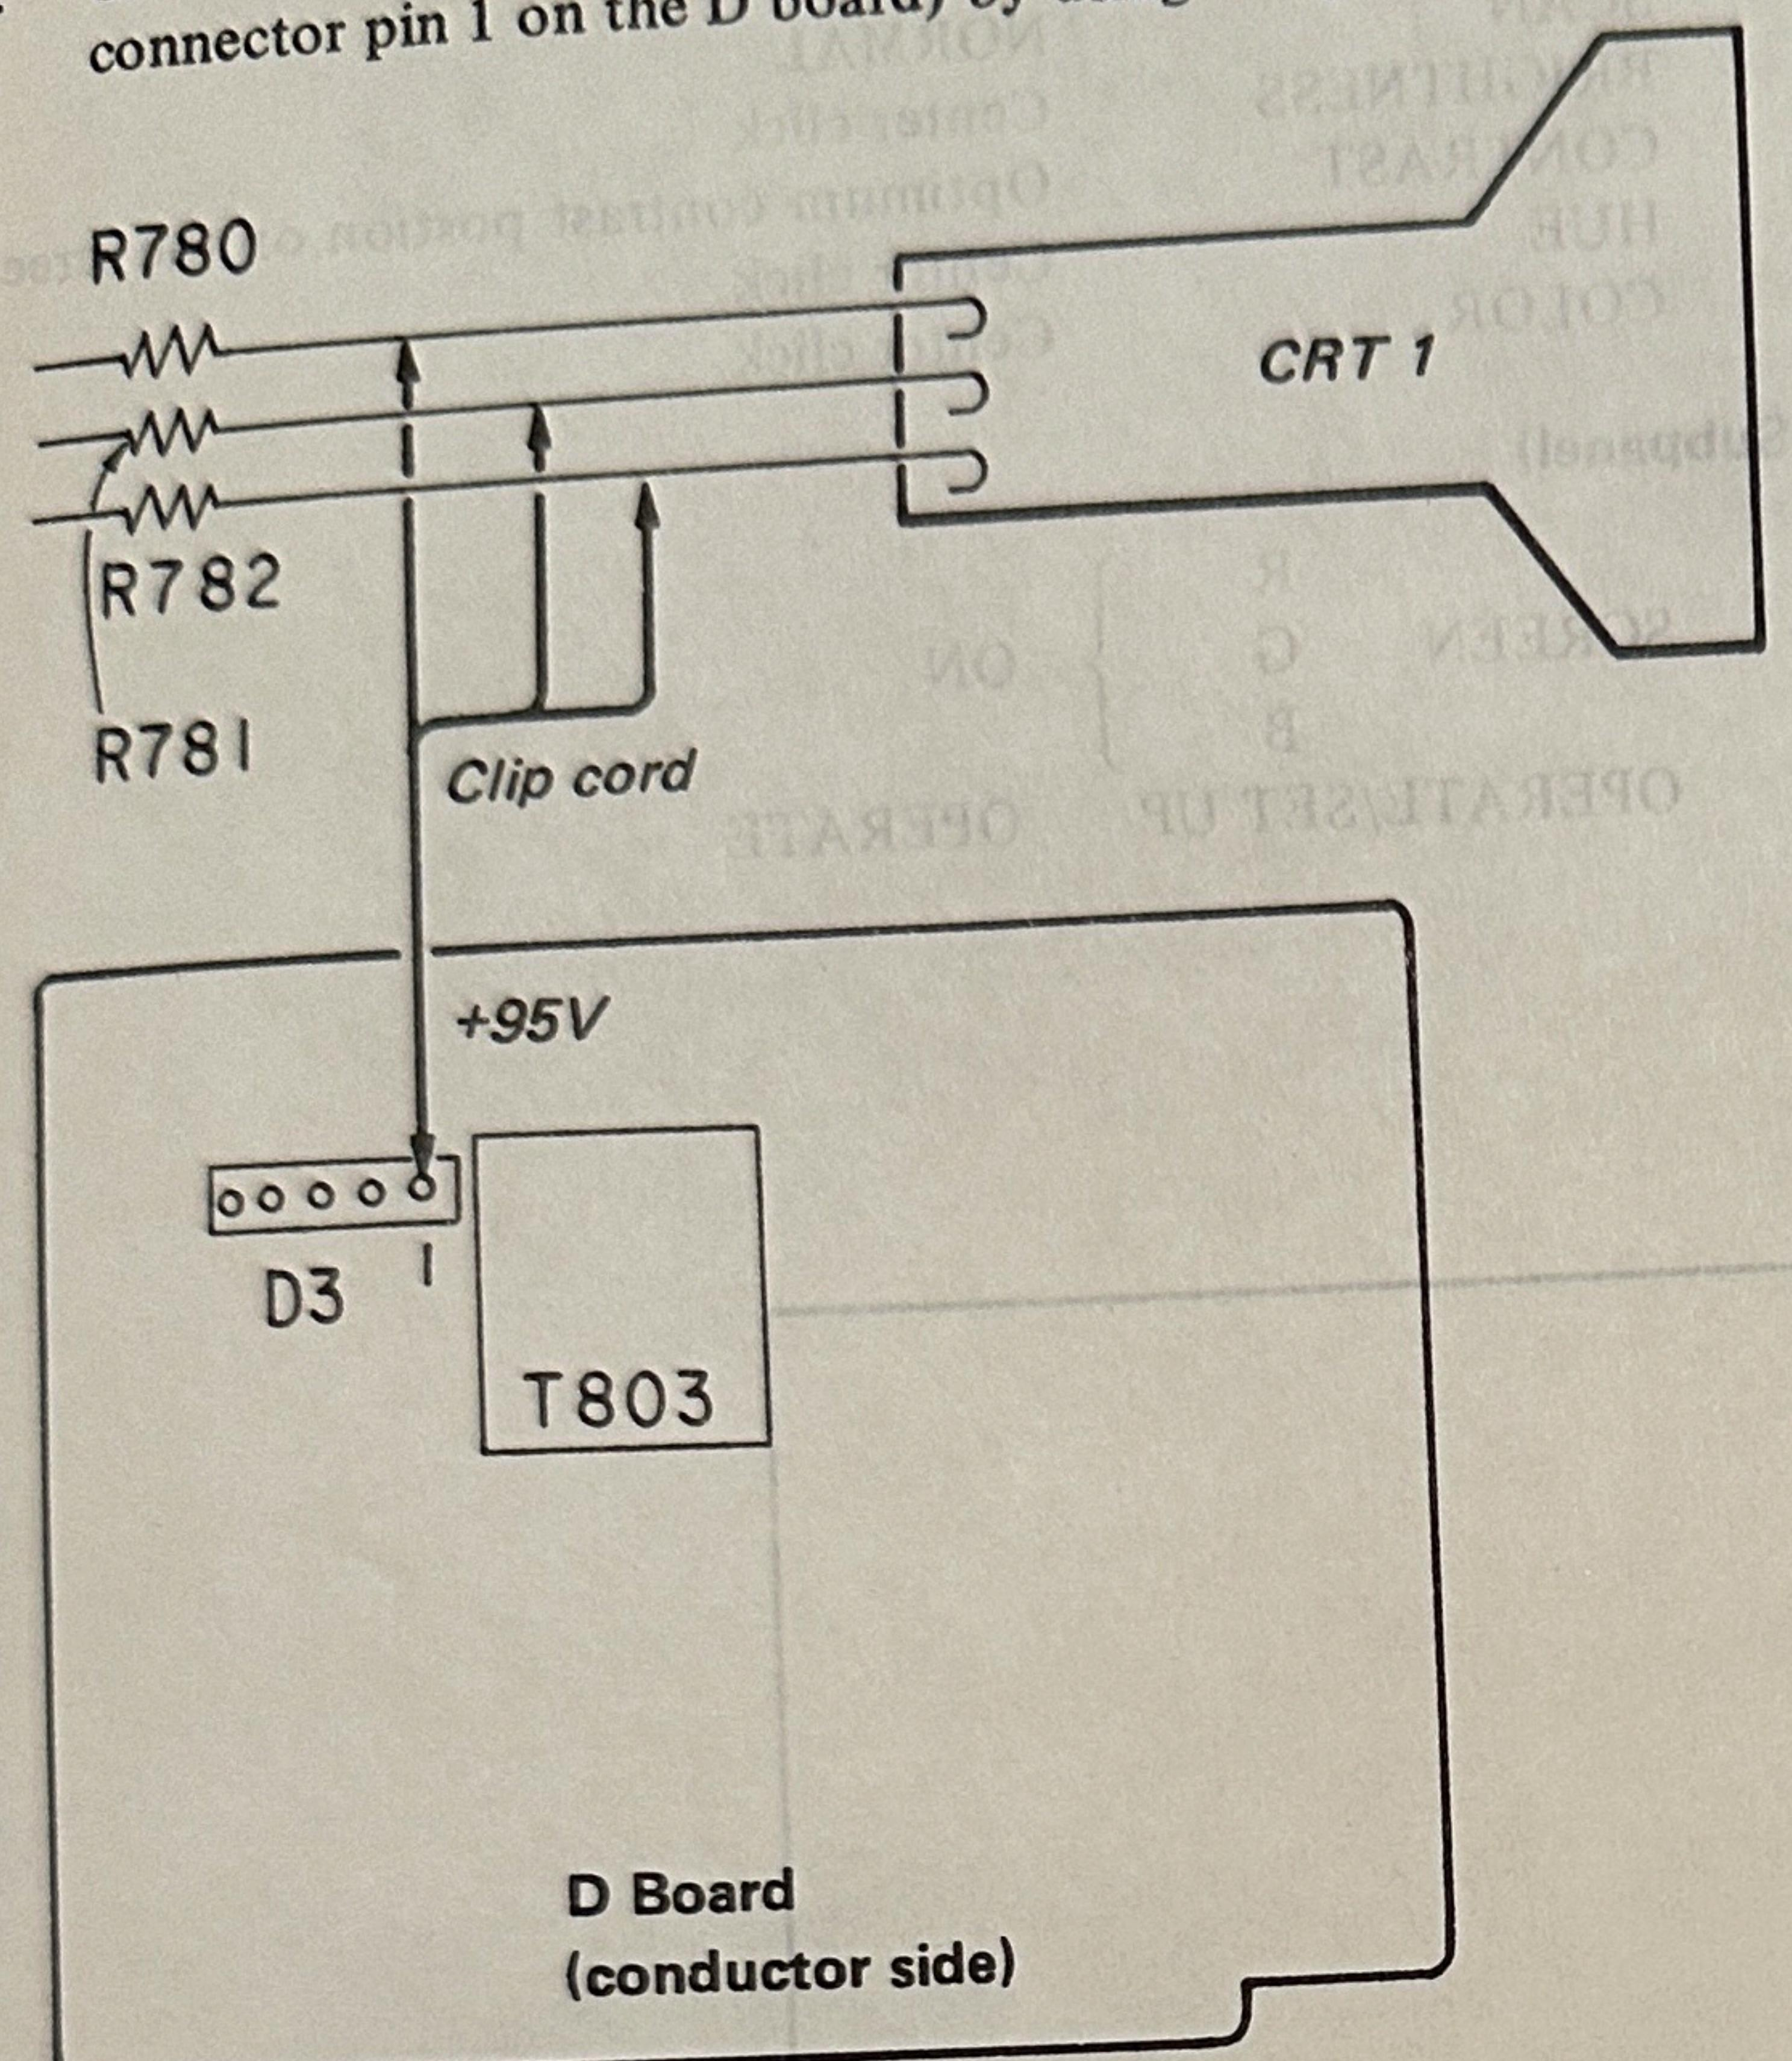

Fig. 12.
- If misconvergence appears at corners of the screen, Affix the permalloy Ass'y between the deflection yoke and funnel corresponding to the misconverged corners, as shown in Fig. 12.